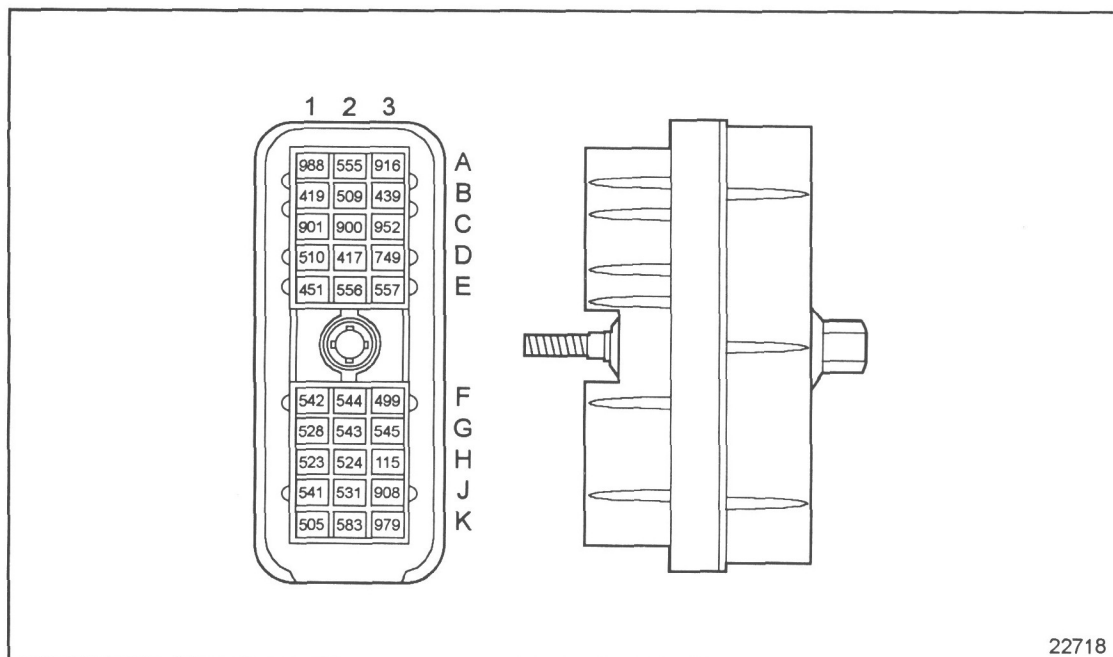

Figure 54-2 ECM Vehicle Interface Harness Connector
3. Measure resistance between sockets E2 and E3 on the ECM vehicle harness connector. See Figure 54-2.